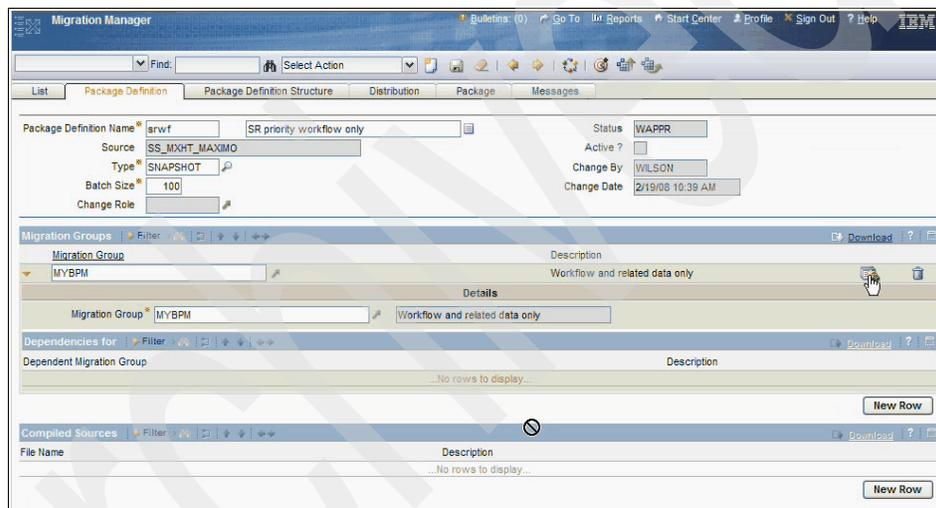

Figure 8-22 Package definition - Migration Group Where Clause
8. After selecting the MYBPM migration group, we want to further specify which specific objects we want to migrate. We can do so clicking the **Where Clause** button, as shown in Figure 8-22.